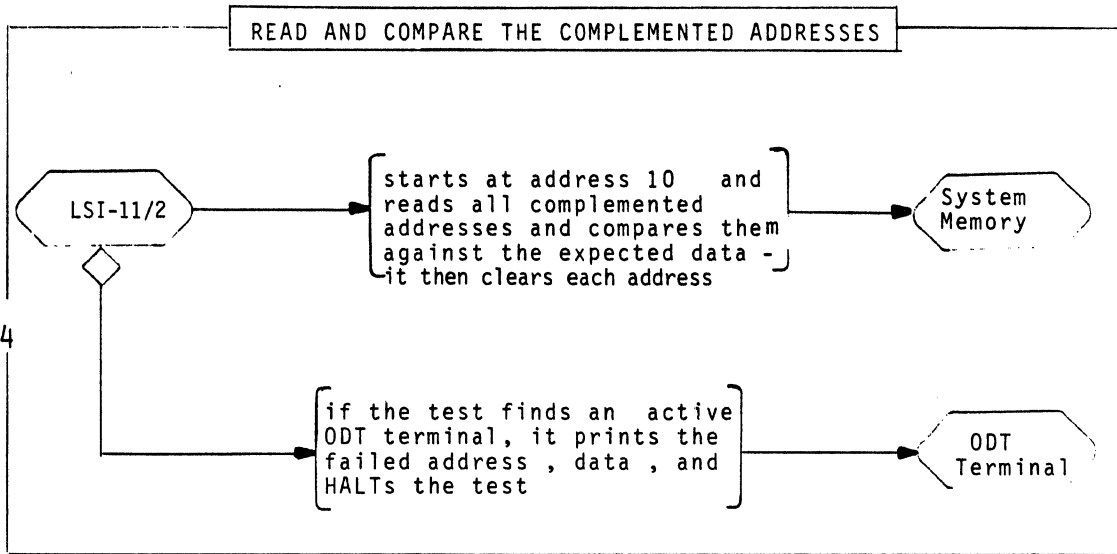

Fig. 3-8. Read and compare the complemented addresses.
4. READ AND COMPARE THE COMPLEMENTED ADDRESSES (Fig. 3-8). Starting again at location 10, the test sequences upward through memory one more time. This time it reads all complemented addresses and clears them.